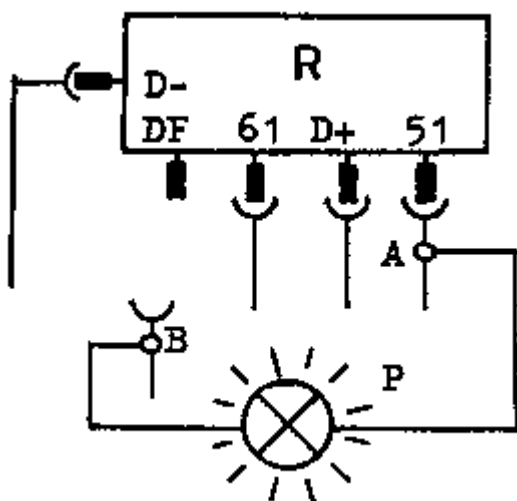

Fig. 126.
- Cable DF to be pulled from the regulator and connected with B (see Fig. 126).